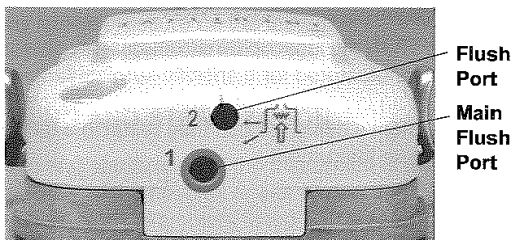

Figure 2
- 5. Slowly insert the swab end into the channel you want to test do not force. (there may be a little resistance to the swab) If testing a DaVinci® robotic arm channel push the swab into main flush port marked 1 all the way in until it stops at the tip of the channel. Do this one (1) time and pull out slowly making sure the swab does not touch any surface before it is place in the correct vial for testing. – Figure 2 and 3.**
of the channel. Do this one (1) time and pull out slowly making sure the swab does not touch any surface before it is place in the correct vial for testing. – Figure 2 and 3.